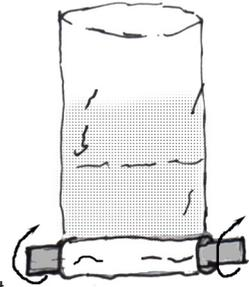

Figure 3-31
4. Hold the Whirl-Pak from the ends, and flip the bag away from your body two to three times to ensure a water tight seal (Figure 3-31).